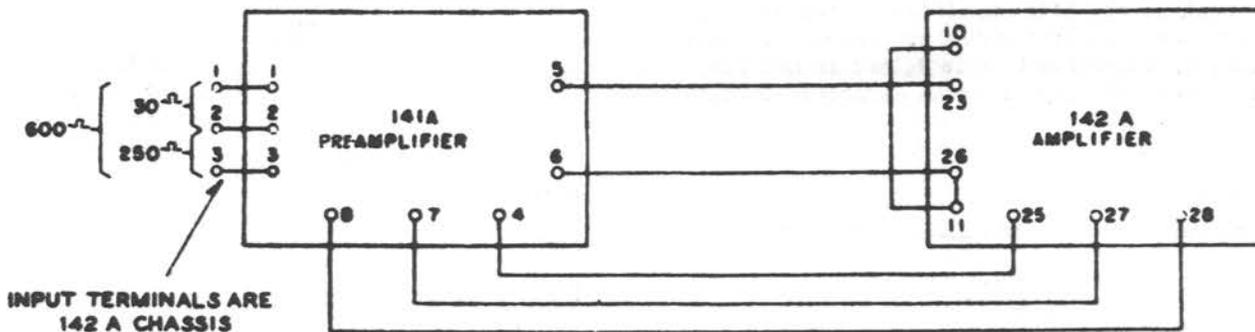

Fig. 3 - 142B amplifier - Block Diagram
2.01 The schematic diagram of the 142A amplifier is shown in Fig. 2 on Page 13. Fig. 4, on Page 14, shows a schematic diagram of the input circuit arrangement of the 142B amplifier. Figs. 3, 5 and 6 show the circuit arrangements of the 142B, 142C and 142D amplifiers, respectively in block diagrams.
2.16 Terminals 1 through 8, inclusive, are not used on the 142A amplifier. They are used as input terminals on the B, C or D models as shown in Figs. 3, 5 and 6 and Table 1, and in modifications of the 142A amplifier as described in Section 024-106-101. The normal connections for the remaining terminals are as follows:
2.20 This is a high gain amplifier consisting of a 142A amplifier and a preamplifier coded 141A amplifier. Fig. 3 shows a block diagram of the 142B amplifier. In addition to the master gain control (P1) in the common circuit there is an additional control which is part of the 141A amplifier and is adjustable in 3 steps of 10 db each. Referring to Fig. 4, on page 14, it will be seen that the input circuit, which comprises the 141A preamplifier, consists of a 3-stage low level amplifier. It has a 1000-cycle gain which is adjustable from 40 to 70 db. The input transformer will accommodate microphones or other low level devices having a nominal source impedance of 30, 250 or 600 ohms. This transformer has a permalloy core and case. It is mounted on the